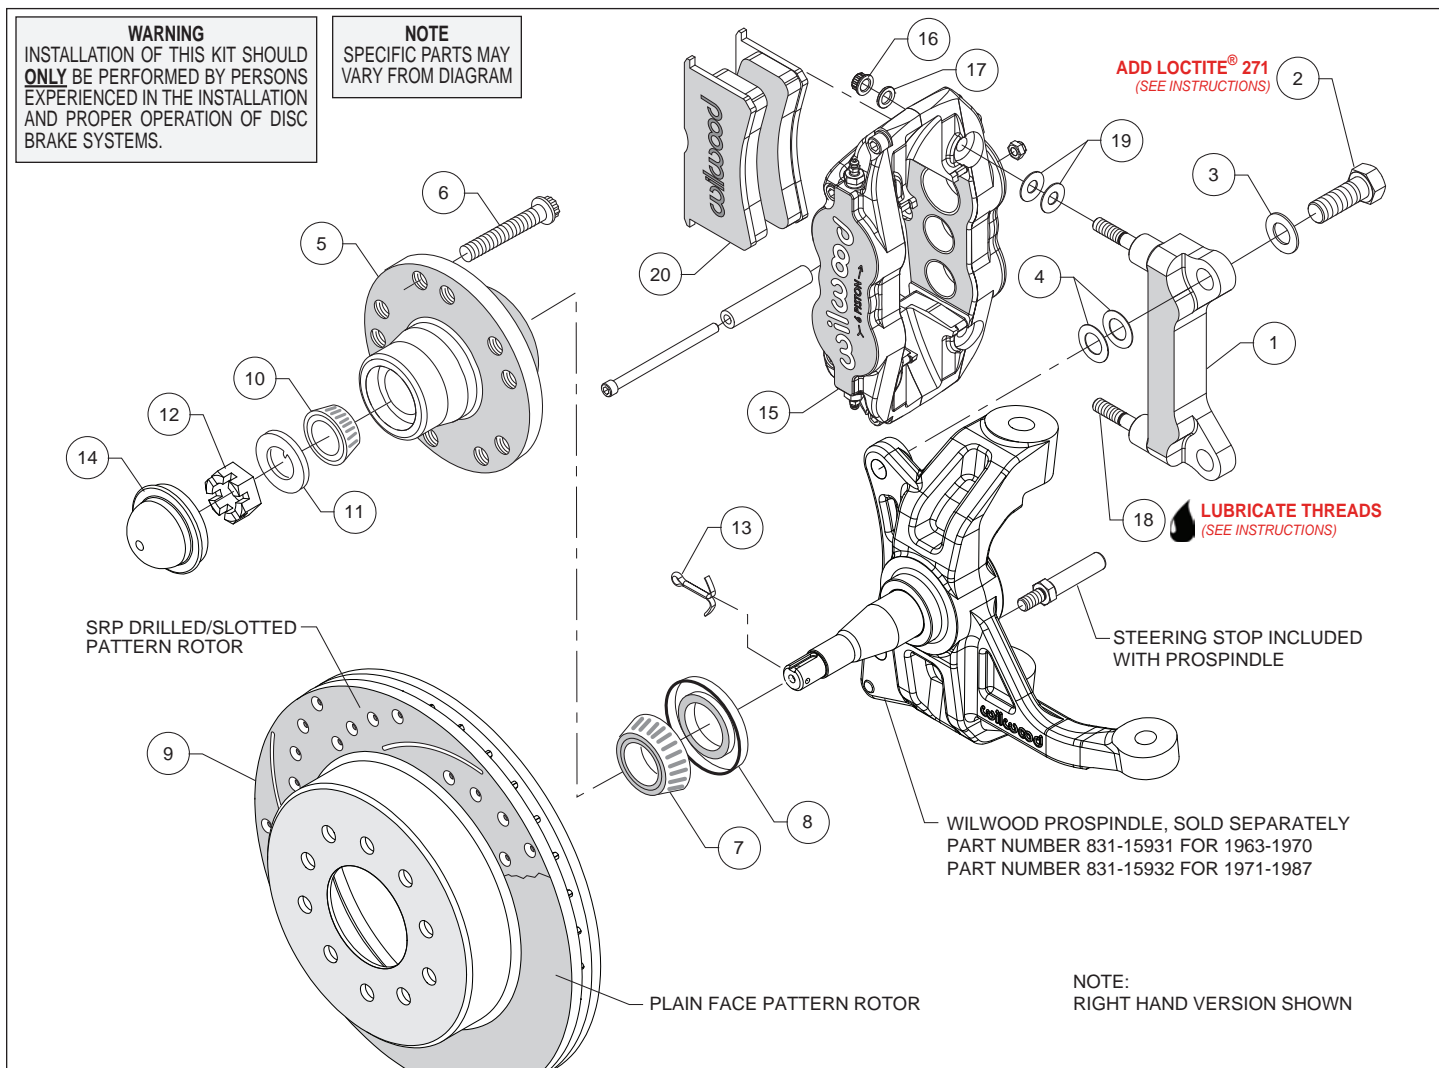

Figure 1. Typical Installation Configuration
**Assembly Instructions** (numbers in parenthesis refer to the parts list and Figure 1 on the preceding pages):
- Install the steering stop bolt (included with the ProSpindle) into the spindle as shown in Figure 1 and Photo 1. Torque to 25 ft-lbs.
- The caliper mount bracket (1) should initially be installed with clean, dry threads on the mounting bolts. Orient the bracket, as shown in Figure 1 and Photo 2, and install using bolts (2) and washers (3). Initially place two .024" thick shim (4) on each bolt between the bracket and spindle, Figure 1. Temporarily tighten the mounting bolts. **NOTE:** The bracket must fit squarely against the mount bosses on the spindle. Inspect for interference from casting irregularities, machining ridges, burrs, etc. Later, after the caliper alignment has been checked, the mount bolts will be secured using red *Loctite*® 271.
- Install wheel studs (6) into the hub (5), Photo 3. Torque to 77 ft-lb. **NOTE:** There are two five lug patterns in the hub (5 x 4.75 and 5 x 5.00). Ensure the correct hub stud pattern is being used to fit the wheel application.
- **NOTE:** This kit contains distinct right and left hand calipers that must be mounted in a specific direction, as described below. Lubricate the caliper mounting studs (18) with lightweight oil. Initially place two .035" thick shims (19) on each stud between the caliper and the bracket, as shown in Figure 1 and Photo 8. Mount the caliper (15) onto the bracket (1) using lock nuts (16) and washers (17), Figure 1. Temporarily tighten the lock nuts. Ensure that the caliper is mounted so that the largest pistons are at the rotor exit end of the caliper, in relation to the direction of rotor rotation. View the rotor through the top opening of the caliper. The rotor should be centered in the caliper, Photo 9. If not, adjust by adding or subtracting shims (4) between the bracket and the spindle. Always use the same amount of shims